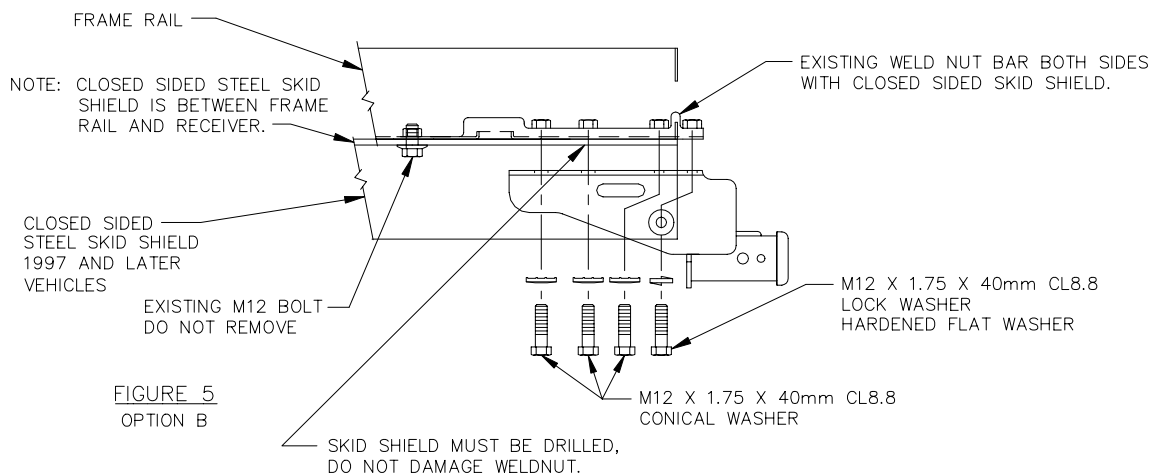

FIGURE 5
OPTION B - SEE FIGURE 5
- C. INSTALL FOUR (4) M12 BOLTS WITH CONICAL WASHERS PROVIDED (THE REARMOST ATTACHMENT HAS A HARDENED FLAT WASHER BETWEEN RECEIVER FLANGE AND LOCKWASHER), EACH SIDE AS SHOWN IN FIGURE 5.